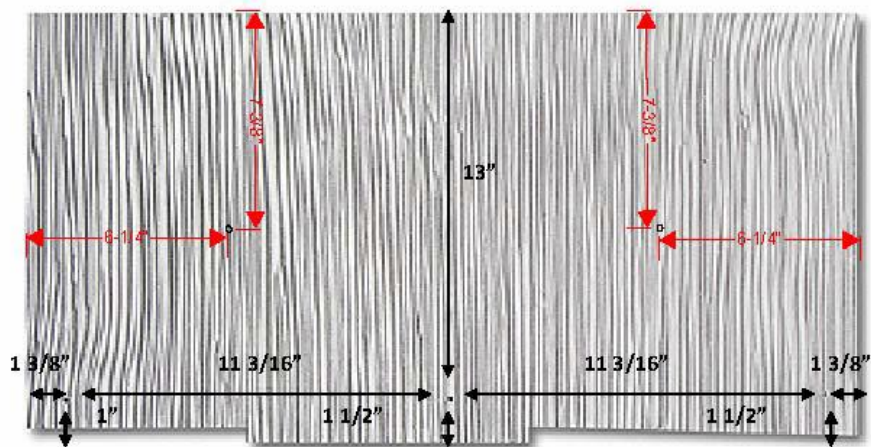

Figure 6: Emphasis™, 5-nails/shingle
Installation: Wall studs shall be minimum 2x4 SPF dimension lumber spaced a maximum of 16 inches on center. Wall bracing shall be installed as required. The walls shall be fully sheathed with minimum 19/32 inch wood structural panels. A building paper shall be applied to the walls before installing the shingles. The shingles shall be fastened to the wood structural panel sheathing using five (5) 12 gauge x 1¾ inch long, hot-dip galvanized, ring-shank nails. Refer to Figure 6 for nail hole locations. Flashing, trim, and corners should be installed according to the manufacturer's specifications.